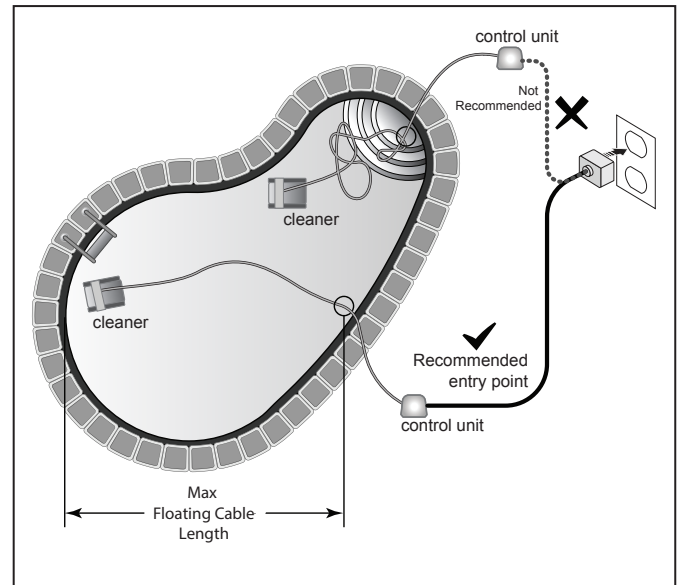

**Figure 12. Submerge and Remove Trapped Air**
1. Submerge cleaner vertically (1) and hold it under the surface, moving gently from side to side (2) until the bubbles stop to remove any air trapped inside (Figure 12).